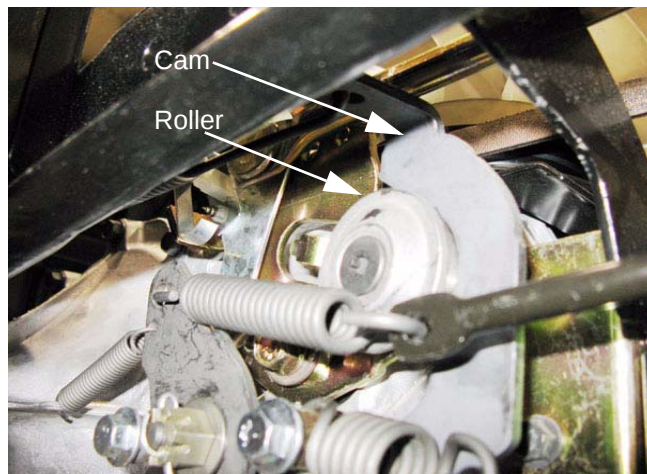

Figure 5.18
5. Confirm that the linkage is in the neutral position: The roller on the control arm must be centered in the “elbow” of the control cam. See Figure 5.18.